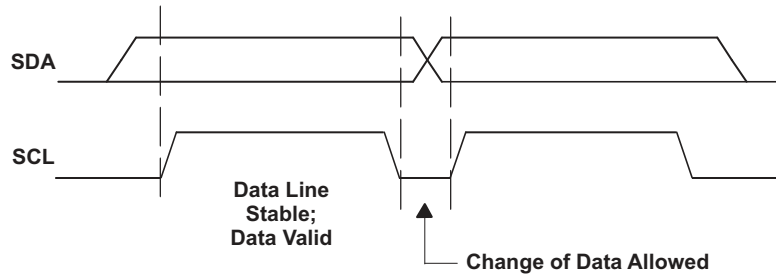
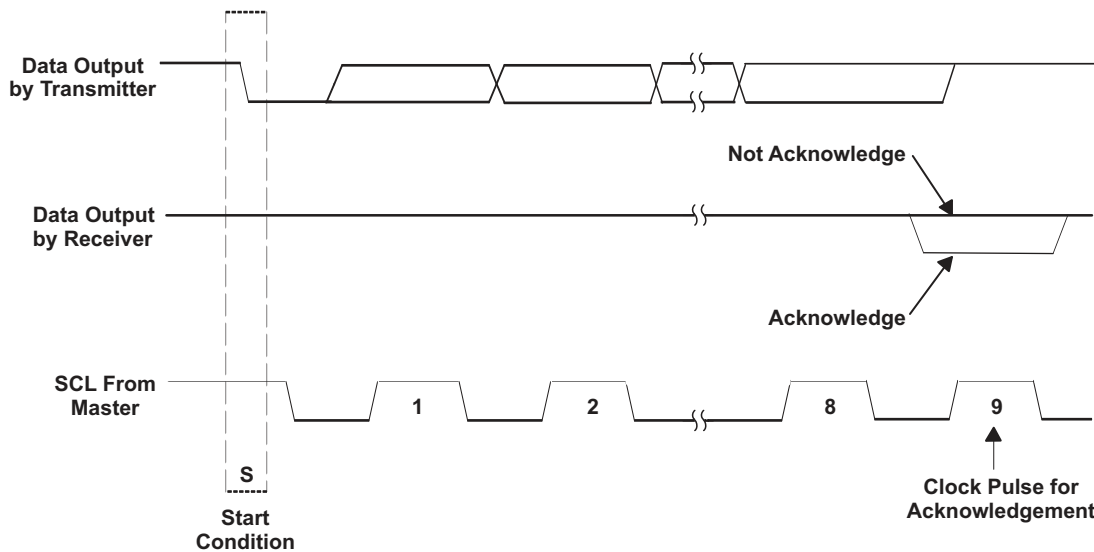

Figure 10. I2C Bit Transfer
Figure 11. I2C Acknowledge
- The master then generates the SCL pulses and transmits the 7-bit address and the *read/write direction bit* R/W on the SDA line. During all transmissions, the master ensures that data are *valid*. A *valid data* condition requires the SDA line to be stable during the entire high period of the clock pulse (see Figure 10). All devices recognize the address sent by the master and compare it to their internal fixed addresses. Only the slave device with a matching address generates an *acknowledge* (see Figure 11) by pulling the SDA line low during the entire high period of the ninth SCL cycle. On detecting this acknowledge, the master knows that a communication link with a slave has been established.